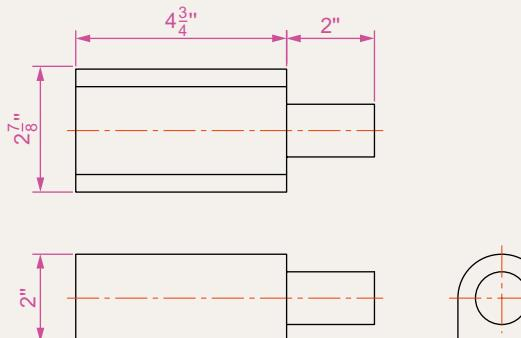

Fig. 7.27 Exercises 2 and 3
- Fig. 7.27** is a first angle orthographic projection of the other part of the fitment. Construct a three-view third angle orthographic projection of the part.
- Construct an isometric drawing of the part shown in **Fig. 7.27**.